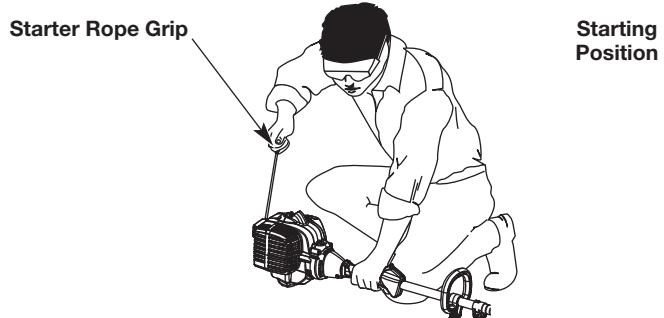

Fig. 11
WARNING: Avoid accidentally starting the unit. To avoid serious injury, the operator and the unit must be in a stable position when pulling the starter rope (Fig. 11).
4. Crouch in the starting position (Fig. 11).
6. Continue to hold the throttle control. Pull the starter rope with a controlled and steady motion **5 times** to start the engine (Fig. 11).